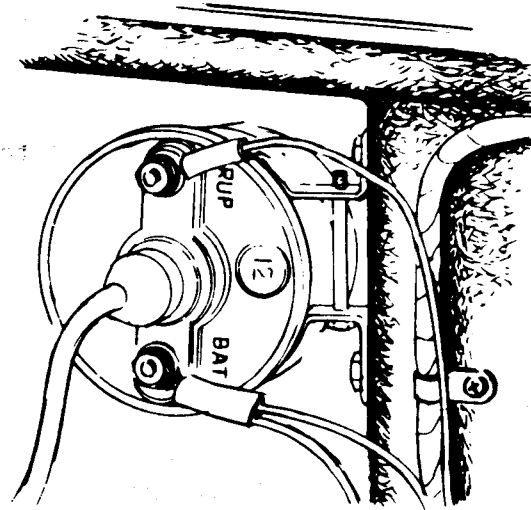

Fig.23 - Ignition Coil.
1. Disconnect the leads from the coil. (white/black from terminal "RUP" and two white leads from terminal "BAT") (see Fig.23).